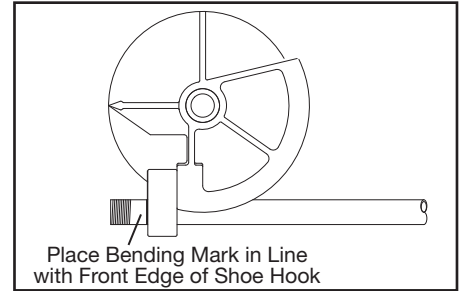

Figure 19c
4. Layout of bends is now complete. Next, place Mark 2 in line with front edge of shoe hook and make first bend. See Figure 19c.